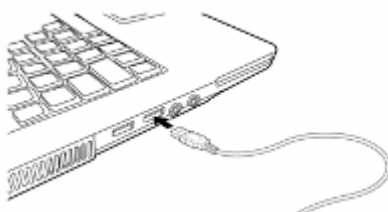

Fig. 2-5
5. Plug the thin end into the computer (Fig. 2-5).